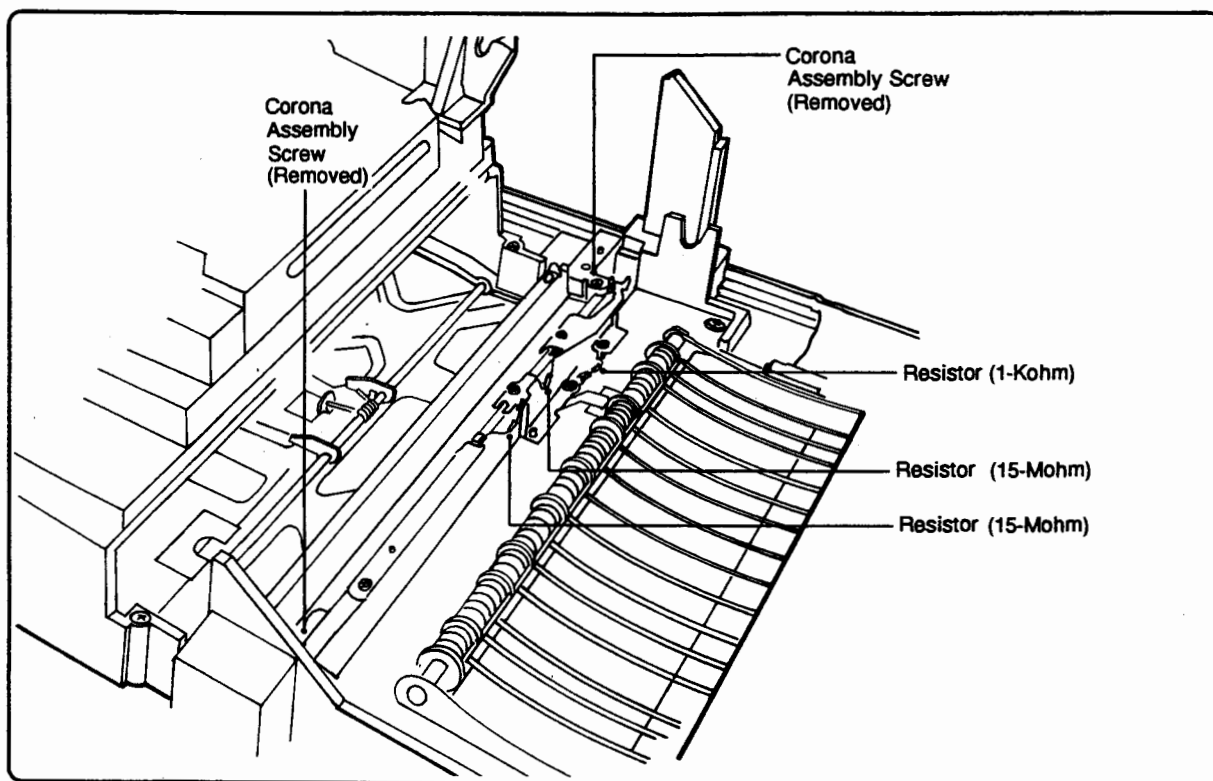

Figure 6-32. Transfer Corona Assembly and Resistor Locations
2. Remove the screws (2) at the ends of the Transfer Corona Assembly (see Figure 6-32), and remove it from the printer.
The two 15-Mohm and one 1-Kohm resistors (see Figure 6-32), located toward the front of the printer just beyond the Transfer Corona Assembly, can be accessed by removing the Registration Assembly, High-Voltage Power Supply Assembly, and Transfer Corona Assembly.